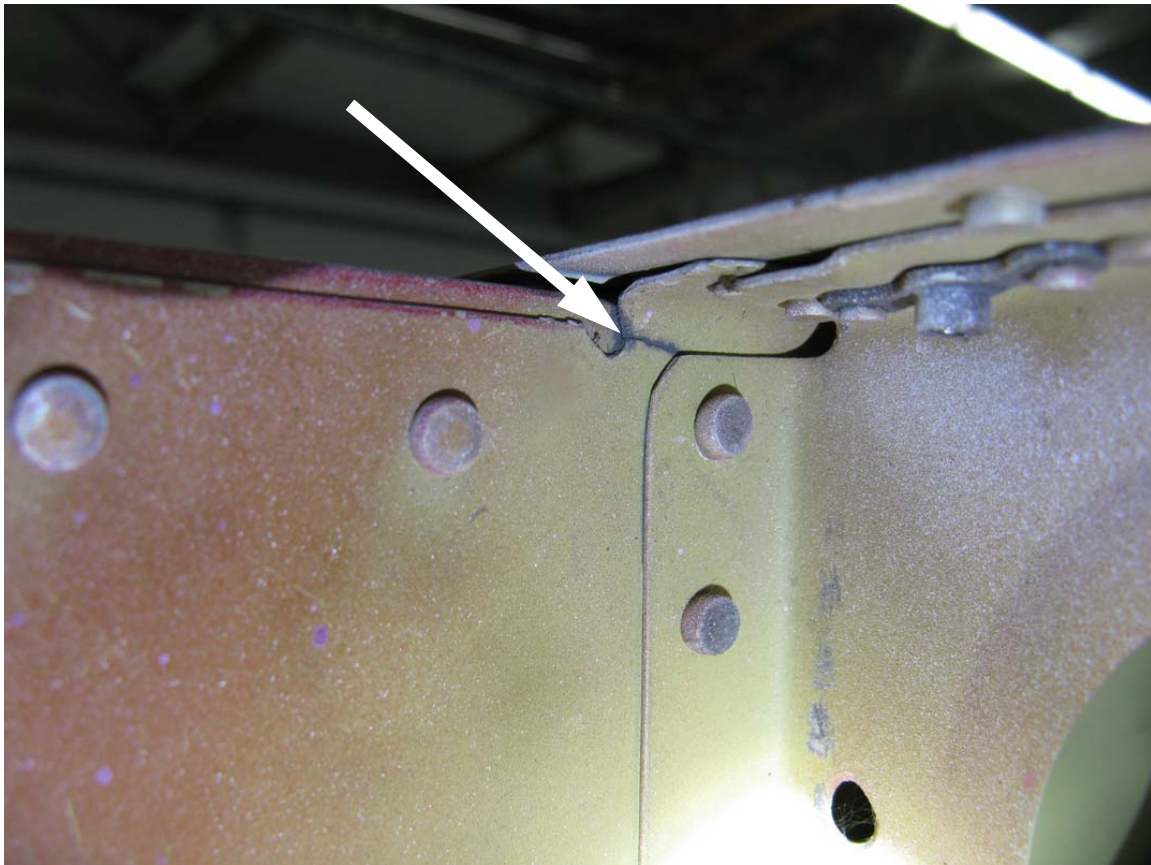
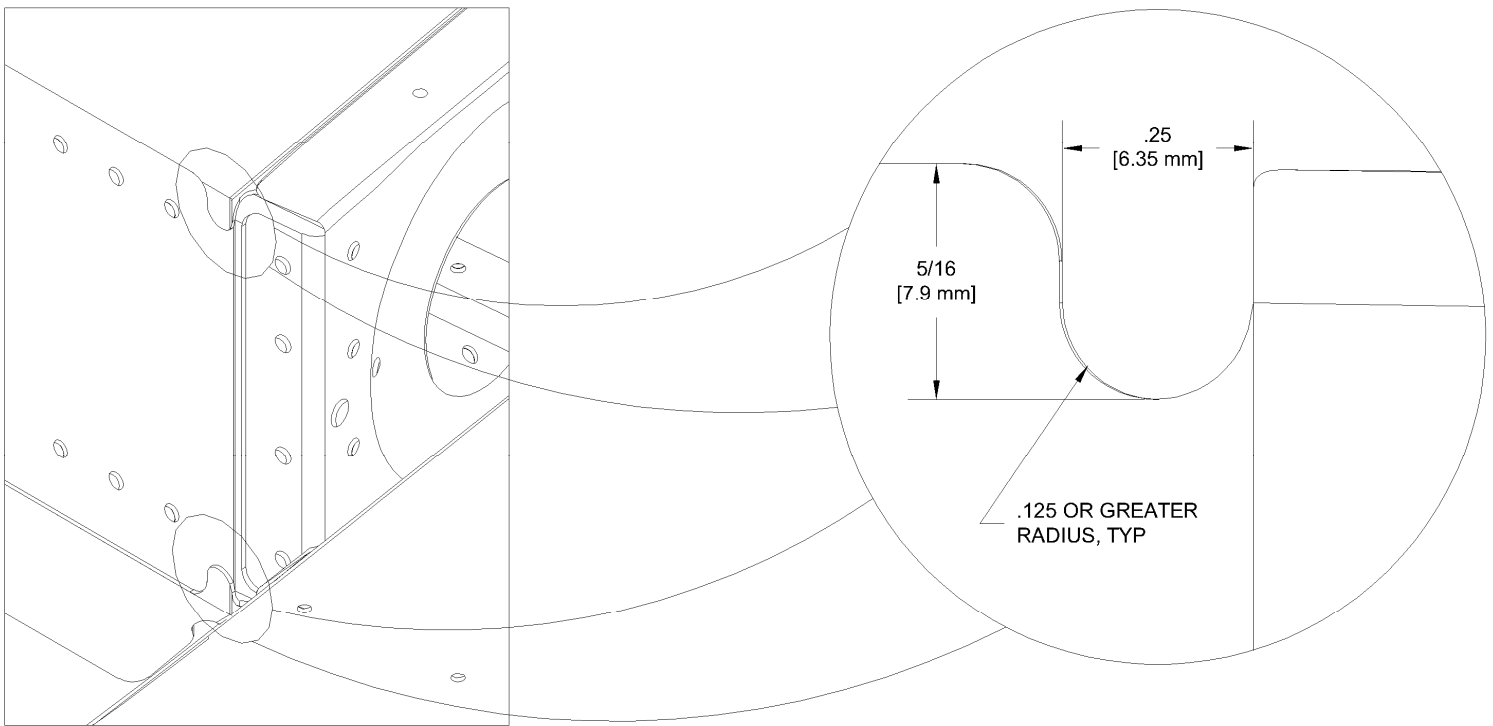

FIGURE 1: Typical crack in horizontal front spar web emanating from relief notch.
FIGURE 3: RELIEF NOTCHES
Cracks in the forward spar of the horizontal stabilizer have been found emanating from the stress relief notch at the inboard end of the spar flanges. See Figure 1 and remaining figures in this bulletin.
Inspection: Remove the Empennage fairing. Carefully inspect for cracks emanating from the stress relief notch at the inboard end of the forward horizontal stabilizer spar flanges. (see Figure 1 and figure 3). Clean the area and remove any paint, overspray or primer that could hide a crack. Cracks may be very small and hard to detect.
Step 8: Inspect the corners at the inboard end of the top and bottom fwd spar flanges on the left and right spar halves for the presence of relief notches as depicted in Figure 3.